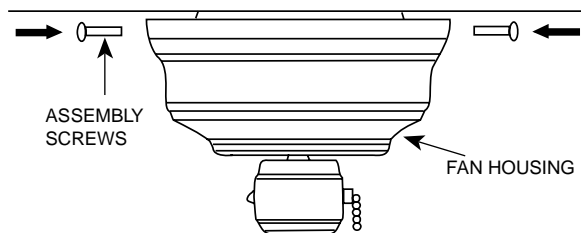

FIGURE 10
- B. Place the fan housing over the motor assembly and fasten the housing to the ceiling plate using the four screws provided (two into each side). See Figure 10.